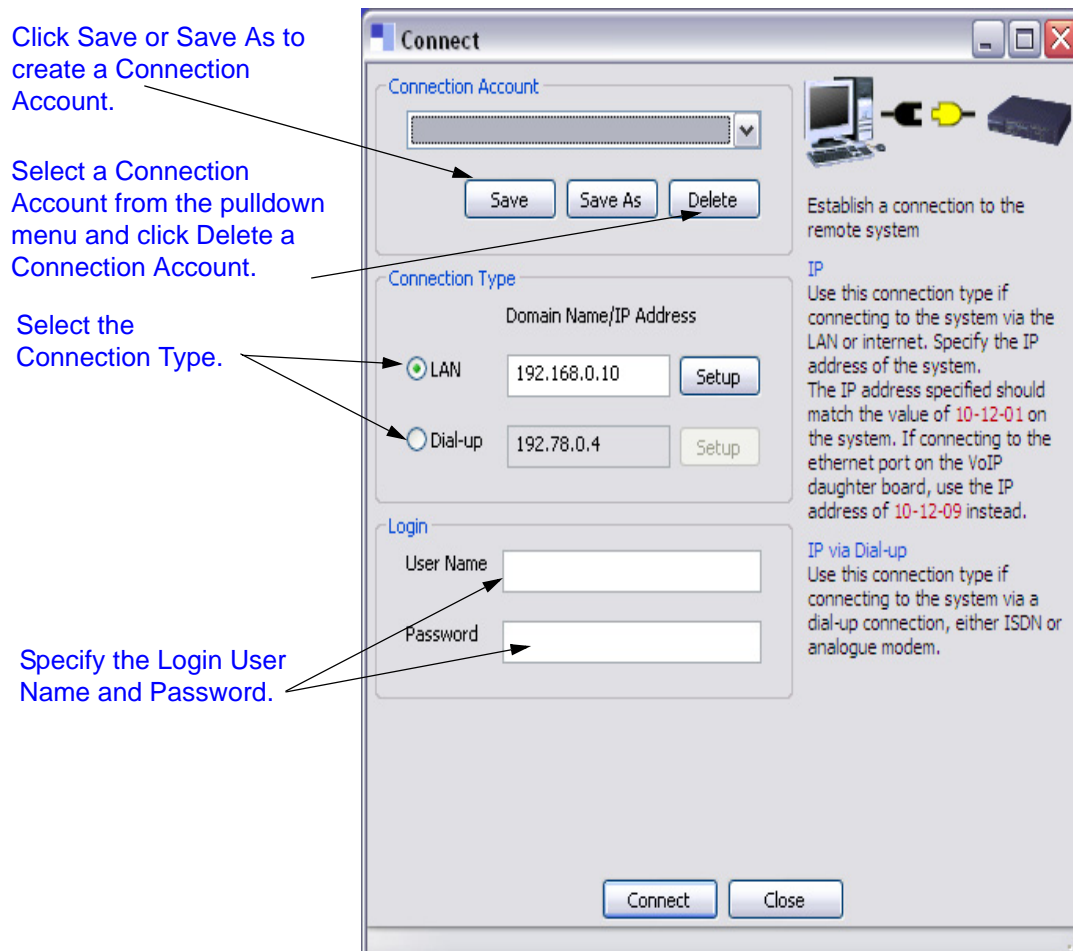

Figure E-1 Connect DialogCreating/Deleting Connection Account
This section describes how to use the Connect dialog to create a new Connection Account or delete an existing Connection Account. (Refer to Figure E-1 Connect Dialog Creating/Deleting Connection Account on page E-2.)
1. Select the **Connection Account** from the pulldown menu on the Connect dialog. (Refer to Figure E-1 Connect Dialog Creating/Deleting Connection Account on page E-2.)